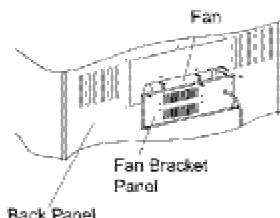

Figure 21- Fan Access
2. Mark or tag each wire removed for its exact reconnection. Remove the four screws from the fan. When installing, reverse the steps above. (See Figures 21, 23 and 24)